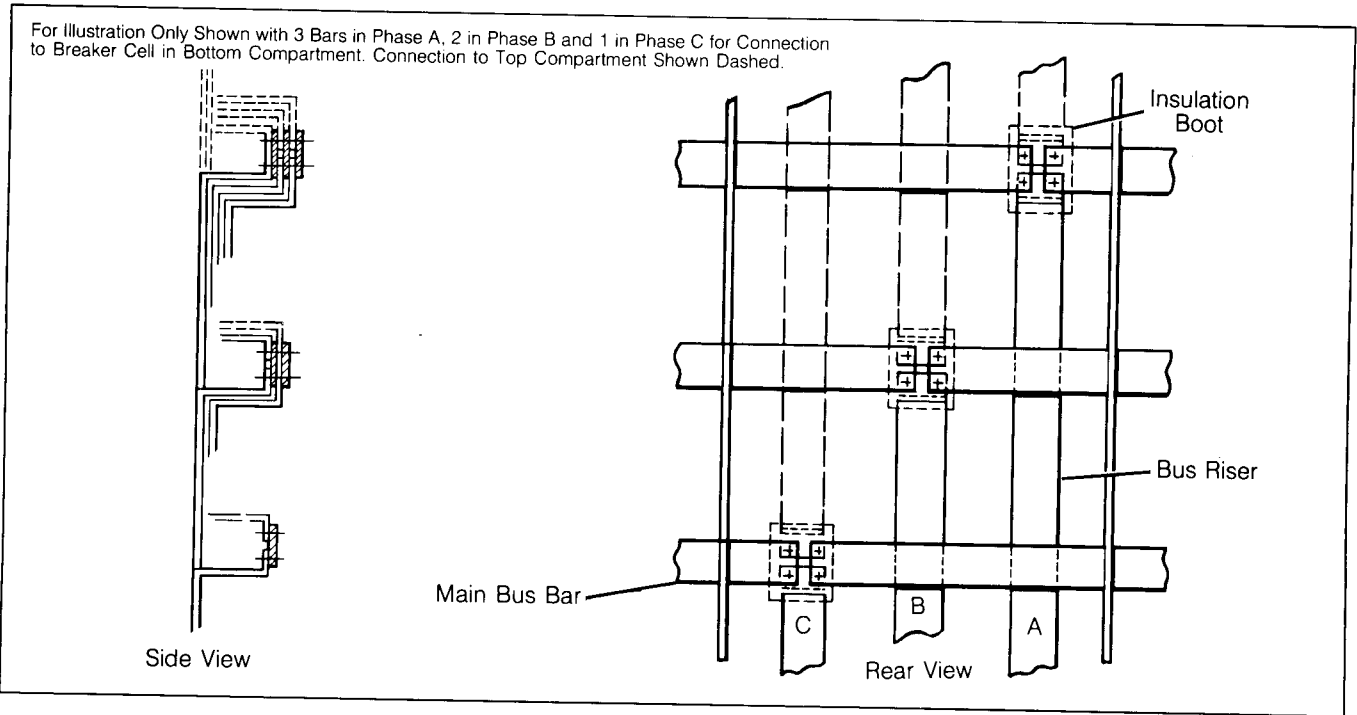

Figure 7. Main Bus Joints—Breaker Section
When a switchgear group is split for shipping purposes, the primary bus and ground bus connections must be made when installing the switchgear. These bolted connections are relatively simple to make. However, refer to **Figures 7 and 8** and these instructions:
7. Assemble all joints as shown in **Figure 7** thru **10**.